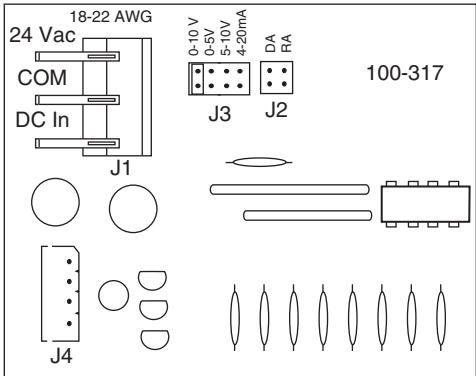
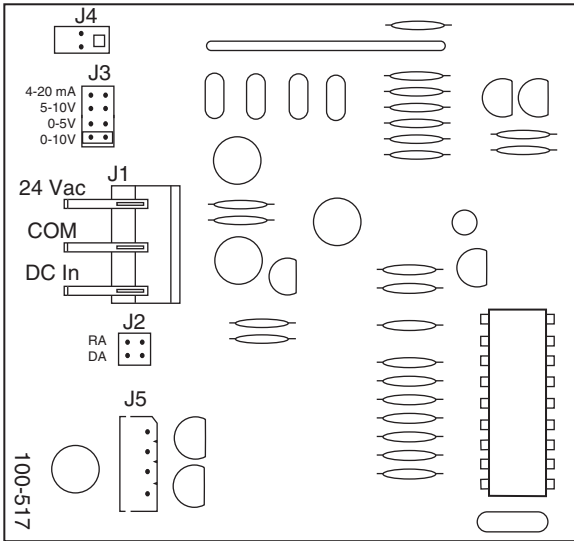

Figure-4 Typical Wiring of Three-Wire Proportional Non-Spring Return Valves.
Figure-5 Typical Wiring of Three-Wire Proportional Spring Return Valves.
1. Remove the cover from the actuator, then connect the power and control wiring to the terminal block (Figure-4 and Figure-5).
All units are shipped with the actuator in the direct-acting, 0 to 10 Vdc mode, which means that the valve opens the B port upon receiving an increasing Vdc control signal. To change the action to reverse-action (valve closes with an increase in control signal), simply remove the action jumper J2 and relocate it to the reverse-acting pins. See Figure-4 and Figure-5.